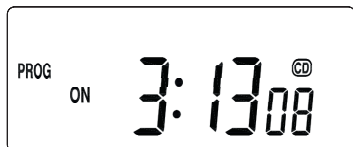

Fig. 3
4. With the **▲** (UP) or **▼** (DOWN) key, set this box to 8, then press the OK key.
5. Press the OK key to conclude the countdown setting. The display will now resemble that shown in Fig. 3. The Countdown time will reduce with each second.